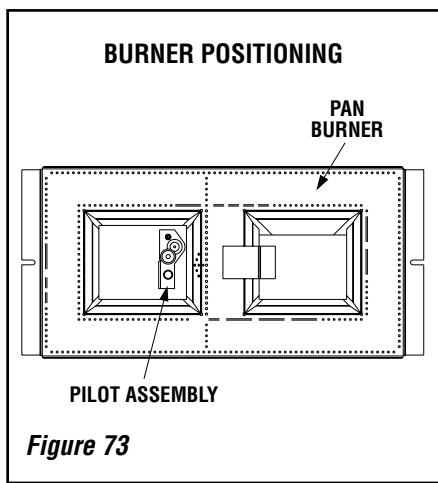

Figure 73
B. Install the burner as shown in **Figure 73**.